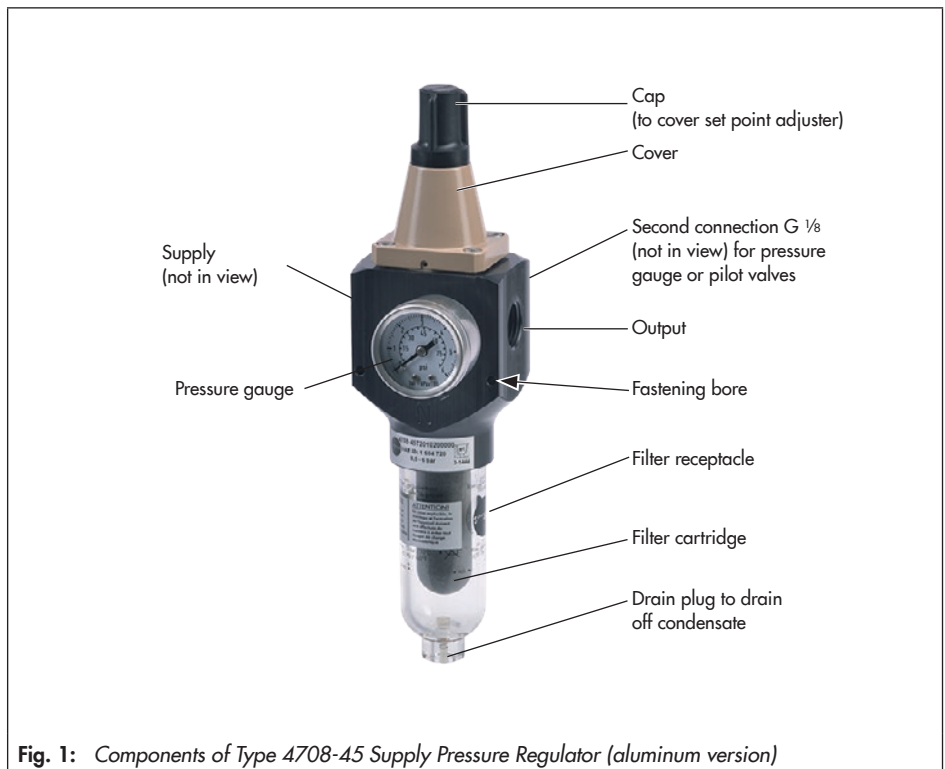

Fig. 1: Components of Type 4708-45 Supply Pressure Regulator (aluminum version)
The air connections (supply and output, see Fig. 1 on page 9) are designed either with ISO-228/1 - G ½ or ½-14 NPT threads.
- See Fig. 1 on page 9.